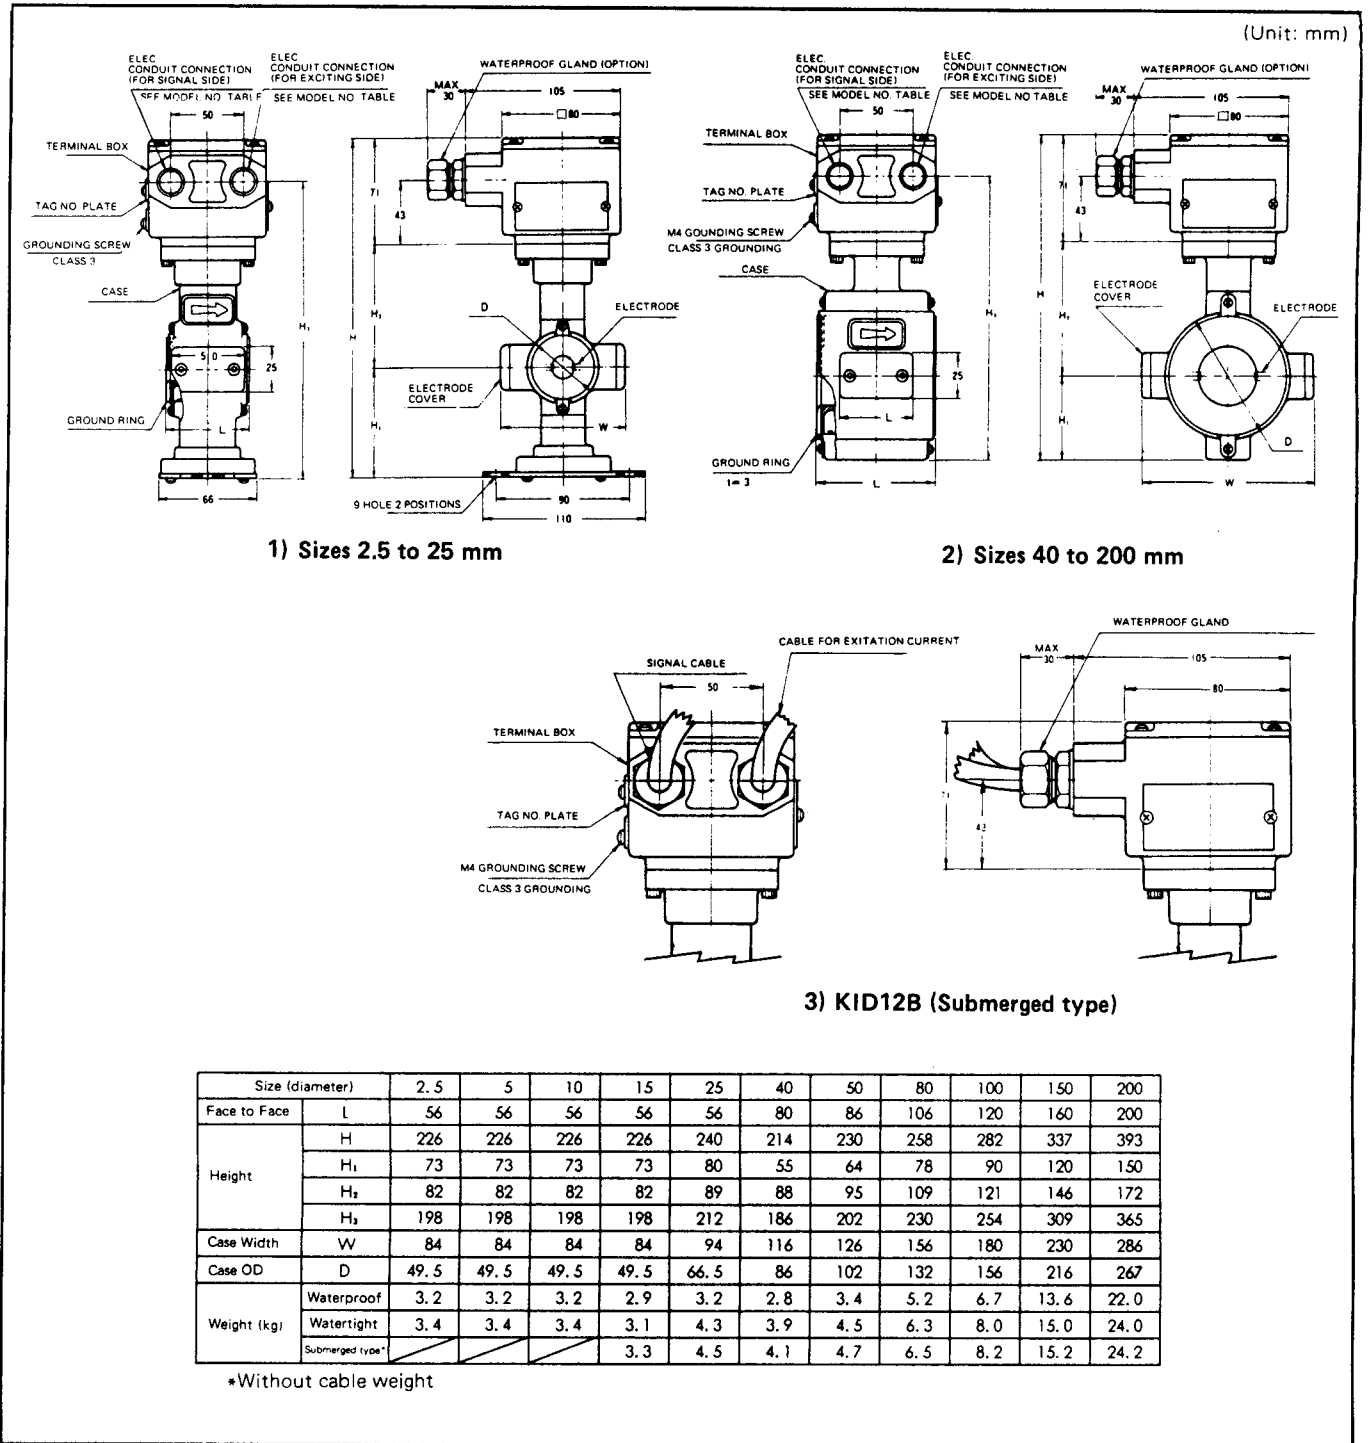
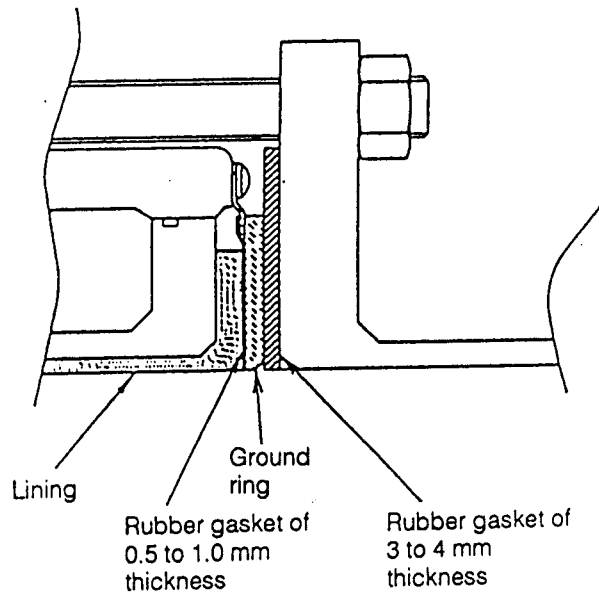

Figure 5-2
Figure 5-13. Installation onto PVC Pipings with Rubber Gaskets
- (3) When fastening a rubber gasket with lower torque than specified, fix another rubber gasket of 0.5 to 1.0 mm thickness (see Figure 5-2) between the lining and ground ring as illustrated in Figure 5-13 before fastening. (Because a rubber gasket having relatively small gasket factor is inserted between the flange and ground ring and between the ground ring and lining, a complete fluid seal is provided with lower fastening torque.)